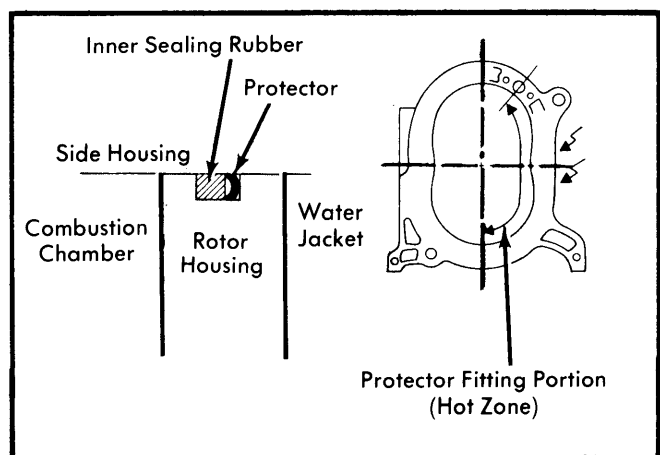

Fig. 22 Installing Protectors for Inner Sealing Rubbers
2) To provide greater durability to sealing rubbers, install a protector behind each inner sealing rubber, (Fig. 22). Install new "O" ring, sealing rubbers and protector in front side of rotor housing. Apply a light coating of petroleum jelly to hold them in place.